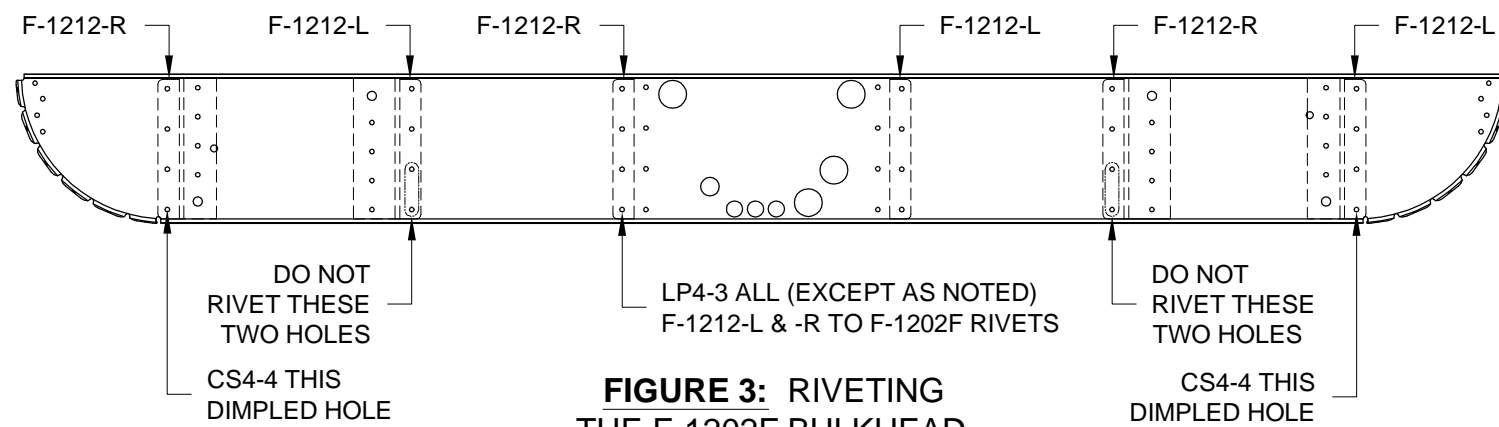

FIGURE 3: RIVETING THE F-1202F BULKHEAD
Step 7: Cleco the F-1202F Bulkhead back in place, then rivet it to the F-1212-L & -R Step Ribs using the rivets called out in Figure 3.